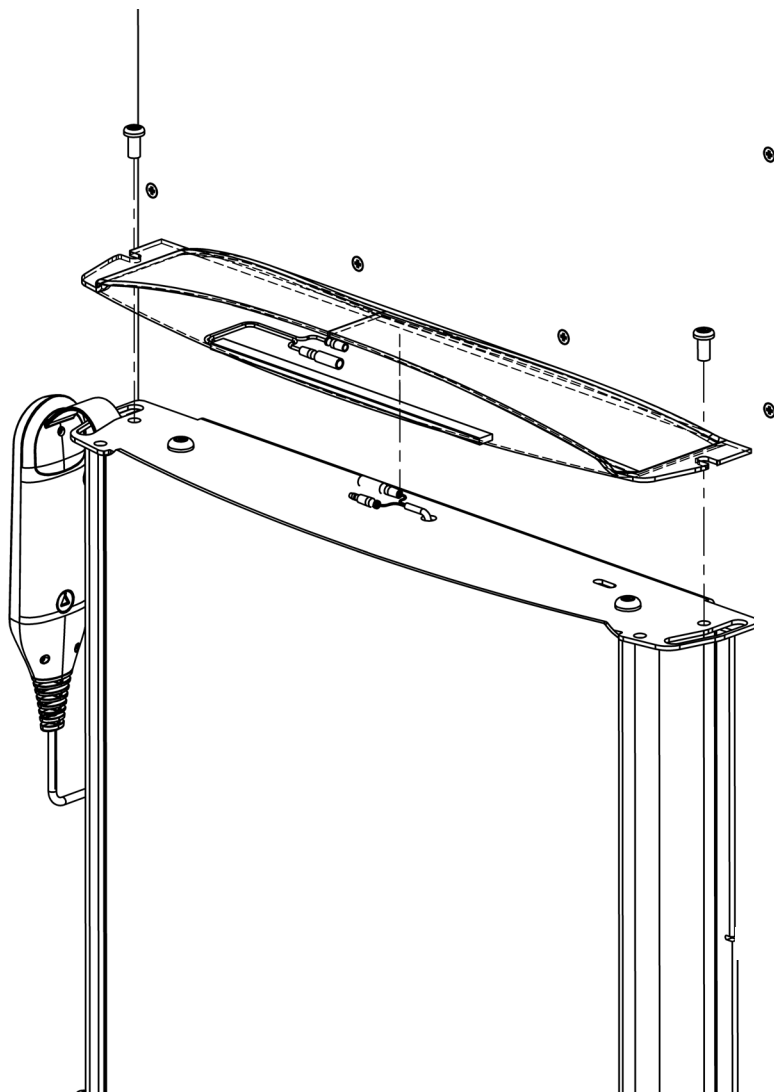

Fig 12.5a
- Remove the two screws from the top of the SBU as shown in Fig 12.5a.
- Fit the light housing to the top of the SBU using the previously removed screws as shown in Fig 12.5a.